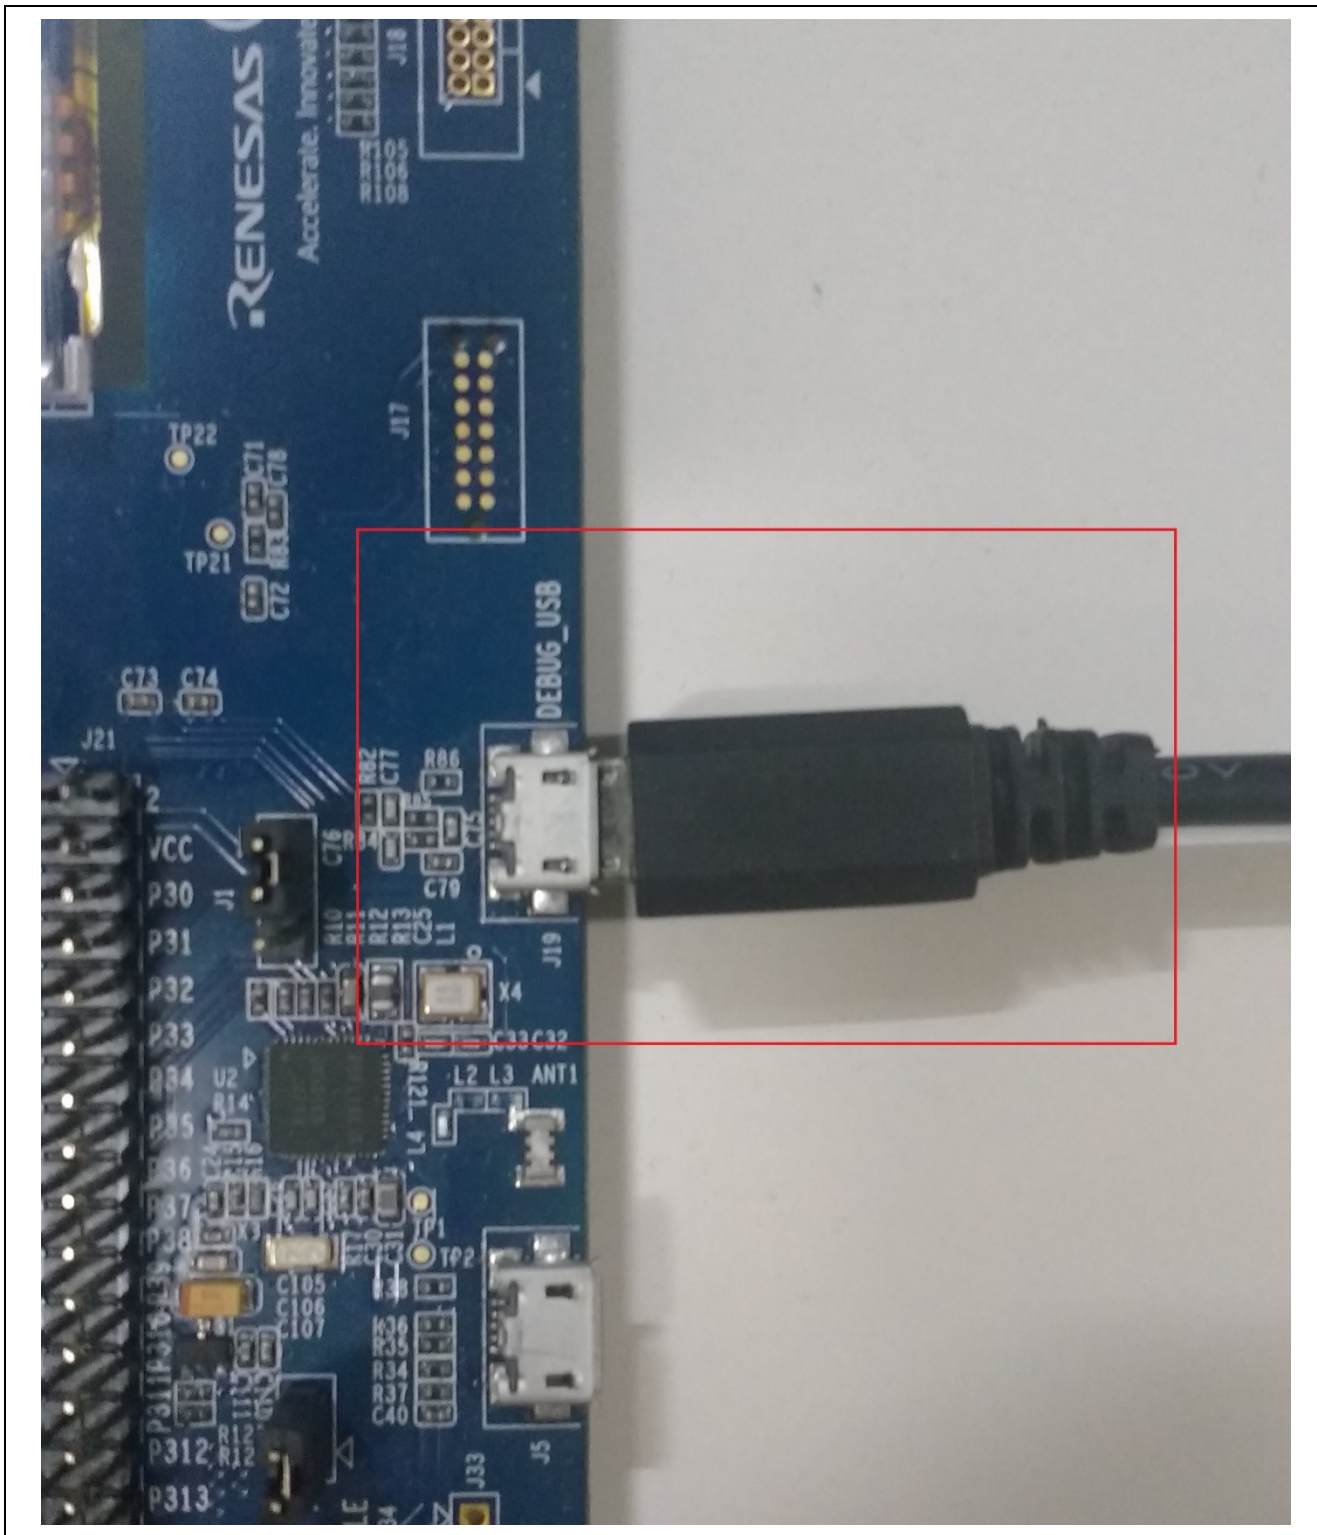

Figure 18 Debug USB
6. Connect to the host PC using a micro USB cable to J19 on SK-S7G2 as shown in the Figure 18.